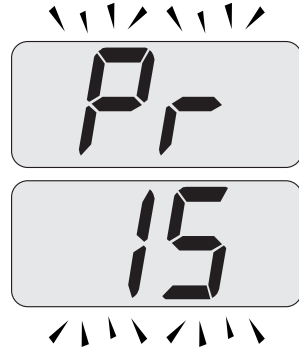

Fig. 7.19
- Scroll the various parameters using keys 10 or 11 until the letters **Pr** that alternate with code 15 are displayed on the LCD display, indicating that "parameter 15" (Fig. 7.19) has been activated.
- Press keys 9 and 10 (Fig. 7.17) at the same time to exit without changing the value (return to the parameters list Fig. 7.19)